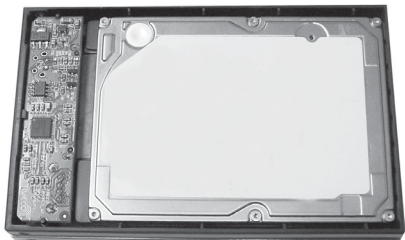

Figure 7
- Put the installed PCB with hard disk drive into the hard disk drive tray, see **Figure 7**.